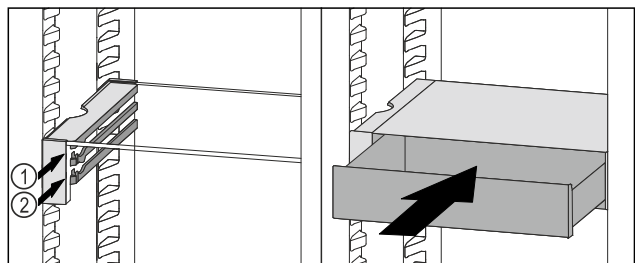

Fig. 95
- ▶ Place the VarioSafe drawer behind the stoppers on desired rib *Fig. 95 (1)* or *Fig. 95 (2)*.